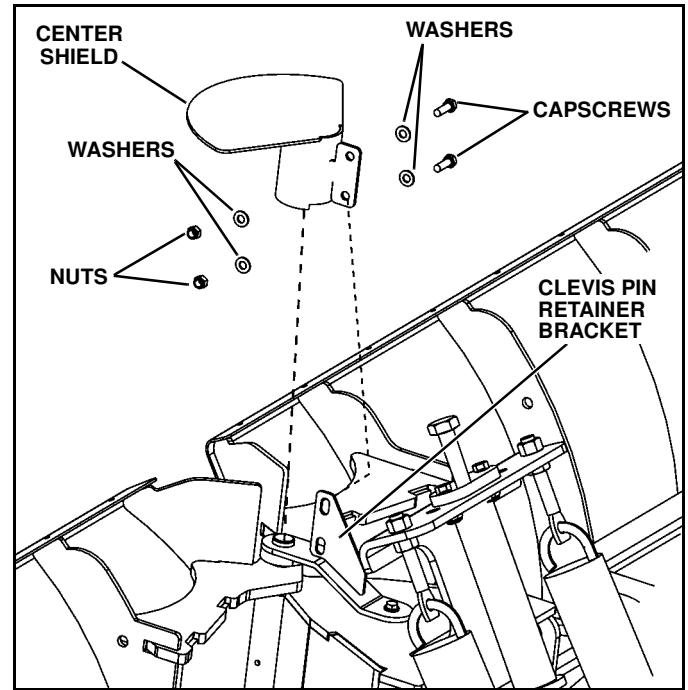

Figure 1-8
9. Install the center shield on the clevis pin retainer bracket, and secure with two 5/16-18 x 1" hex head cap screws (p/n 98009149), four 5/16" flat washers (p/n 98009024) and two 5/16" lock nuts (p/n 98009150). (See Figure 1-8).